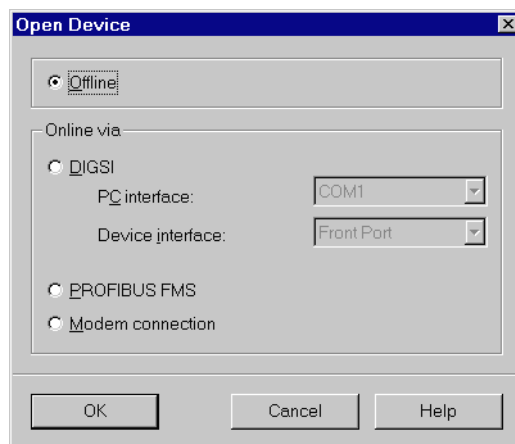

Figure 9-3 DIGSI® 4, dialog field Open Device
- ❑ Doubleclick on this item. The **Open Device** dialog box opens, as shown in Figure 9-3.